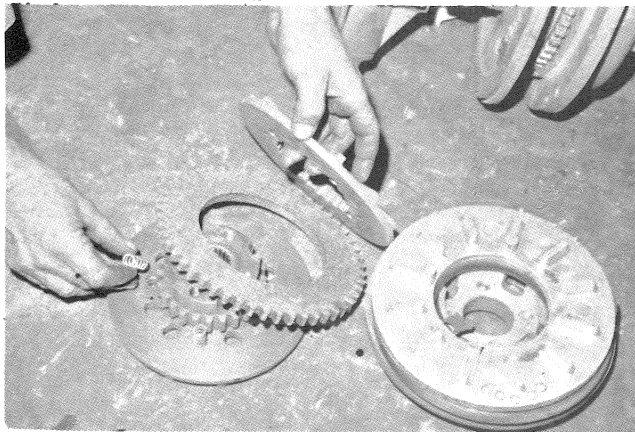

Figure 15. Clutch Return Spring Positioning (1)
- (15) Remove pressure plate and fiber friction disc. Note the four return springs. If the springs show signs of collapse, discoloration, or are broken, or if the clutch has been hot, replace all four return springs (Fig. 15 & 16).